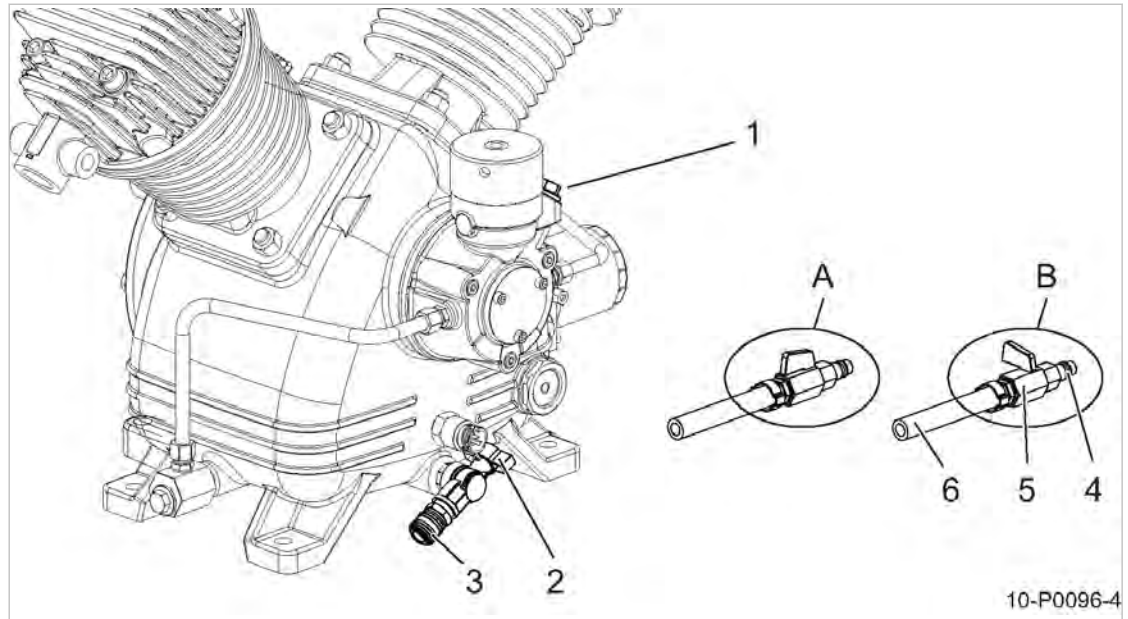

Fig. 38 Changing the compressor oil
1. Slowly open the screw plug ① (Fig. 38).